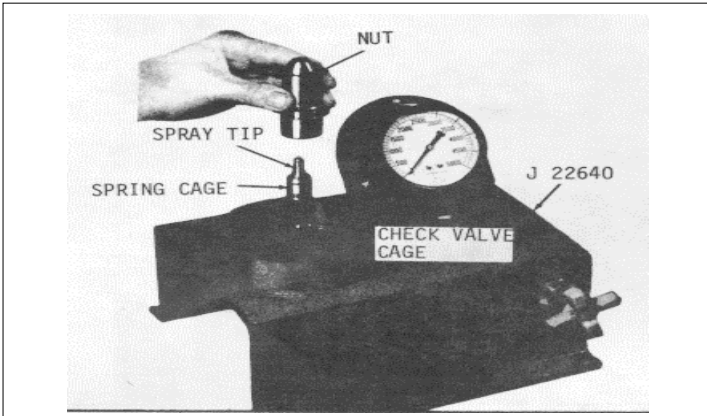

Fig.18
- (2) Assemble cleaned injector parts, including the check valve cage, spring, spring seat, spring cage and spray tip assembly, on the auxiliary tester J 22640 (Fig.18).